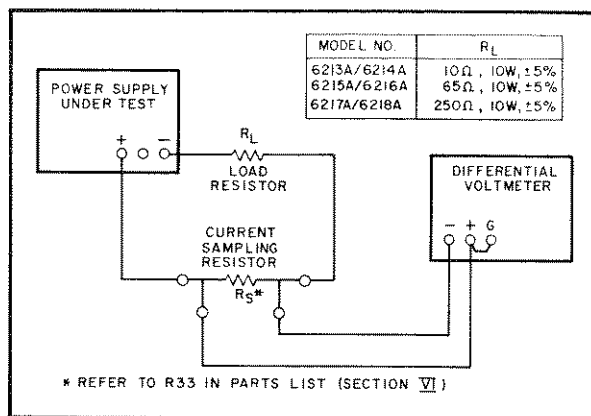

Figure 5-4. Output Current, Test Setup
- Connect load resistor (R_L) indicated in Figure 5-4 across the output terminals of supply.
- Connect test setup shown in Figure 5-4.